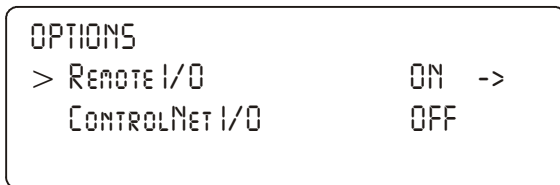

FIG. 9: OPTIONS/SELECTING REMOTE I/O
- Step 3. Press the Enter button. The Options submenu appears with Remote I/O selected. (See Fig. 9)